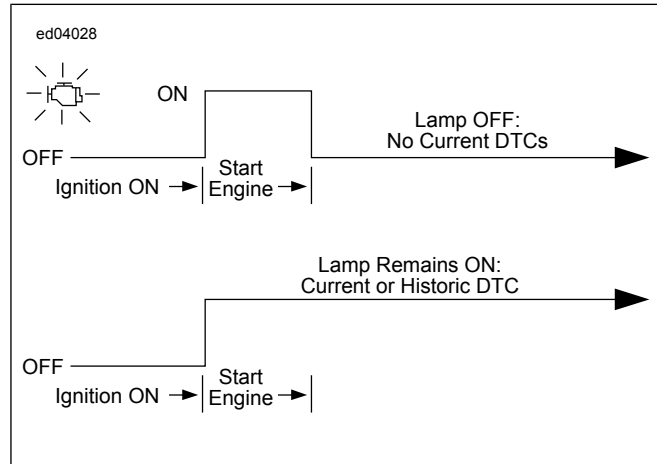

Figure 1-2. Check Engine Lamp
1. See Figure 1-2. After engine startup, one of two events may occur.